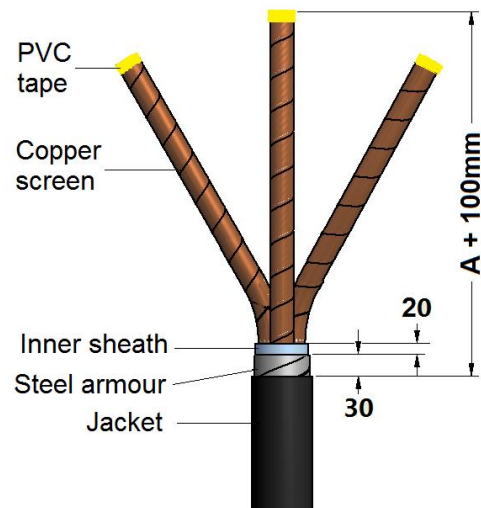

Figure 1
1. As figure 1 shown, fix the cable and remove cable jacket length required for "A" ($A = \text{insulated tube} + 100\text{mm}$), Dimension "A" just for craftsman's reference, it can be varied based on the real situation. Keeping the steel armour length 30mm. Be sure not damage screen layer when remove the armour. Wrap the end of copper screen layer temporally with PVC tape.